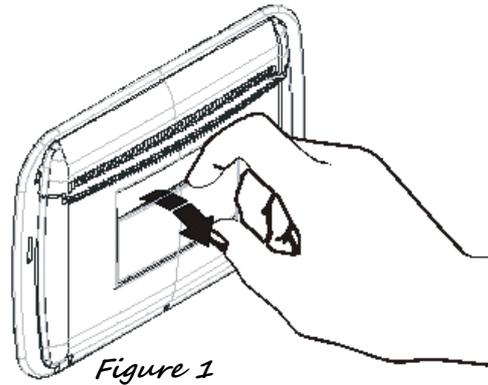

Figure 1
- Open the printer panel shown in figure 1;